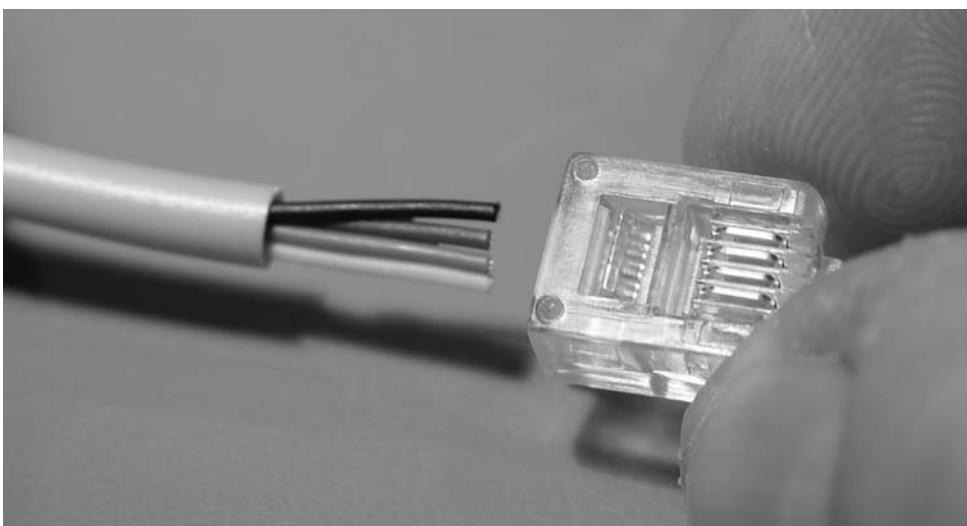

FIGURE 5-4: Slide on the connector keeping the wires arranged.
6. Slide on the modular connector with the pins facing up as shown in Figure 5-4.